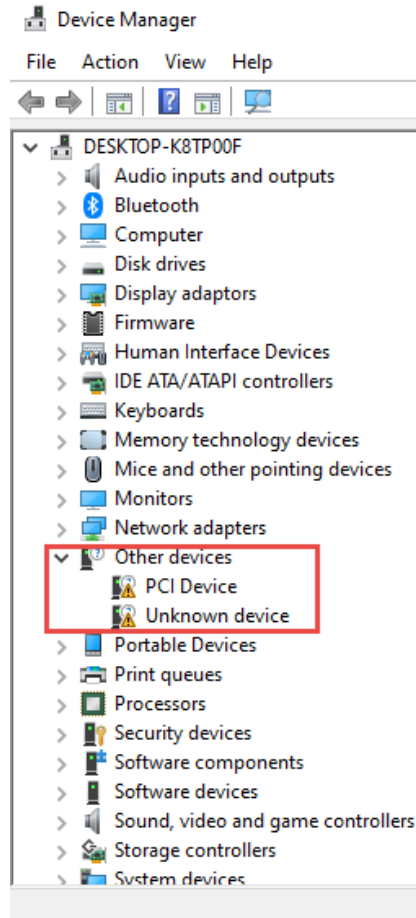

Figure 2-7 Host PC detects the PCIe and USB Blaster II function in the FLIK
- Open the "Device Manager" in the Windows and you will see the "PCI Device" and "Unknown device" on the "Other devices" item (See **Figure 2-7**). It shows that the PCIe device and USB Blaster II circuit on the FLIK are correctly detected by